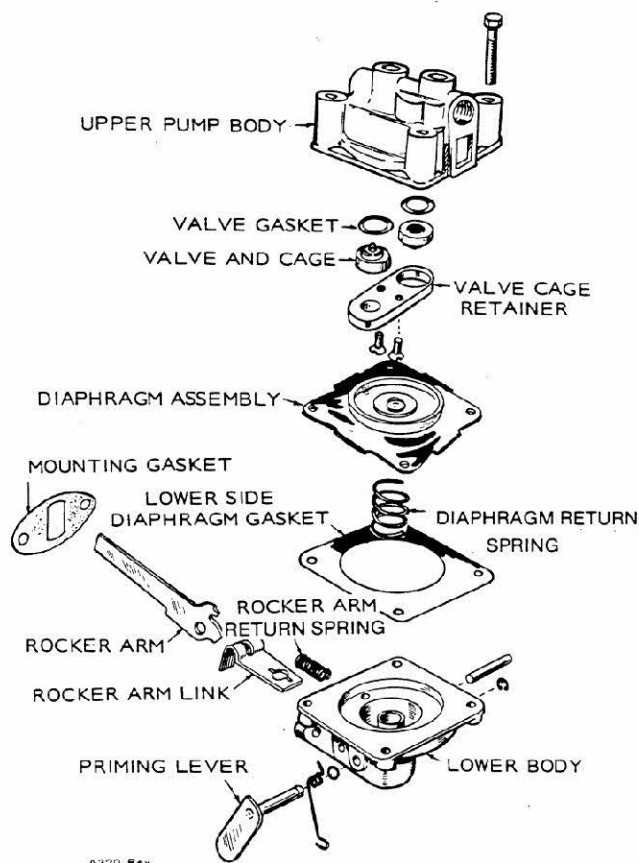

FIGURE 9b. EXPLODED VIEW OF PUMP
3. Detach the valve cage retainer from the pump upper body. Noting their position, remove the valve and cage assemblies and their gaskets from the retainer (Figure 9b).
4. Detach the pump diaphragm by pressing its metal base into the pump body and turning it 1/4 turn. (Figure 9b).